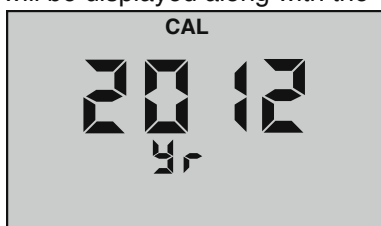

Figure 13
3. Press  to initiate. “CAL” will be displayed along with the YEAR (see Figure 13).